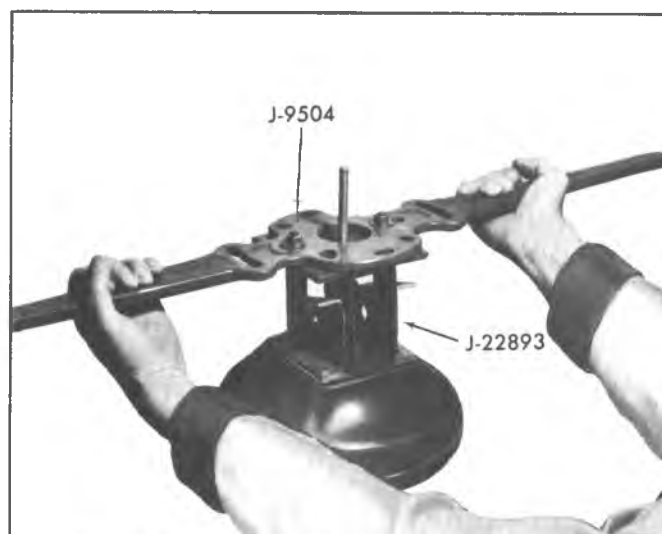

Fig. 4A--Separating Tilt Bracket Type Housings with Tools J-9504 and J-22893
b. Tilt Mounting Bracket Except Chevelle (Fig. 4A)